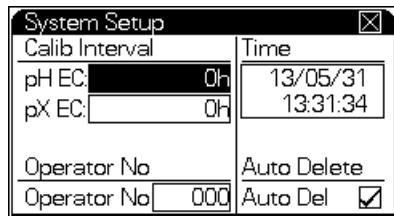

Figure 16 The System Setup screen
- 4 The **System Setup** screen appears on the display. See Figure 16.
- Use the arrow keys to highlight the Time field shown in Figure 16 on page 34 and press [**Setup**].